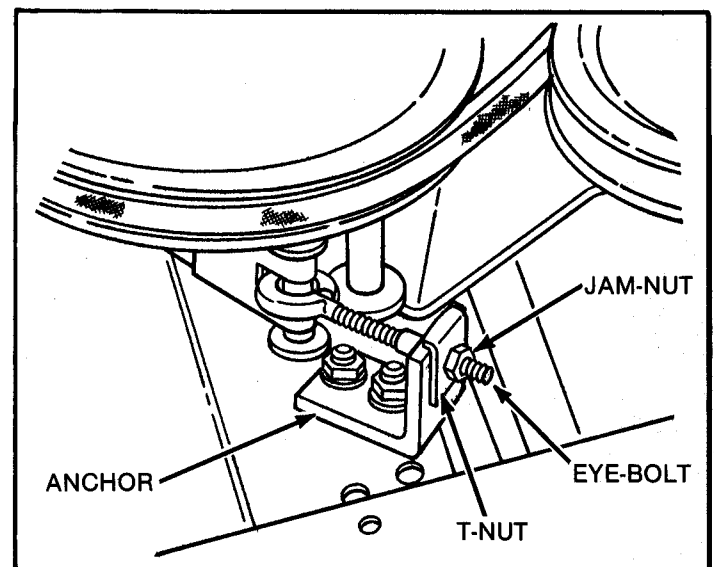

FIG. 9 — BLADE BRAKE ADJUSTMENT
The blade brake compensates for wear. As the brake band wears, the blade control lever will gradually stop further rearward in the slot of the cover. The lever can't touch back. Blade must stop in more than 1 but less than 3 seconds. a 7/16" wrench is needed for this procedure. The adjusting point is shown in figure 9. The adjustment is made with the engine stopped as follows.
STEP 2: While holding the blade lever firmly in the rearward position, loosen the jam-nut on the end of the blade stop eyebolt (figure 9).